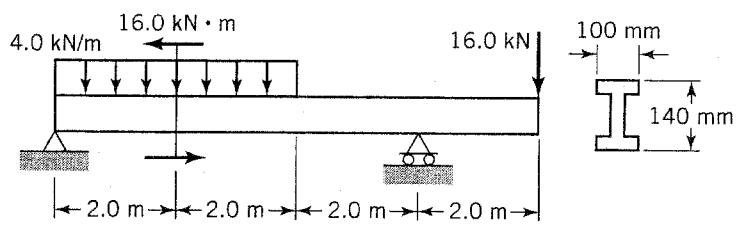

FIGURE P7.11
7.11. For the overhang beam shown in Figure P7.11, determine the maximum tensile flexural stress on sections just to the left and to the right of the section on which the $16.0 \text{ kN} \cdot \text{m}$ couple acts and their locations in the cross section. The flanges and the web of the cross section are all 20 mm thick.